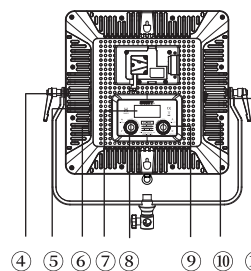

Fig.6 CL-60D
This product support battery and adaptor power supply, switch on the light (Fig.6 ①), set the require light parameter by brightness adjusting knob (Fig.6 ⑧), color temperature adjusting knob (Fig.6 ⑨), then use normally.
This product support two color temperature and brightness adjusting mode: General adjusting mode, Fast adjusting mode. Press brightness/color temperature adjusting knob (Fig.6 ⑧/⑨) to change the adjusting mode the user can set the brightness/color temperature quickly by combining the two adjustment modes according to the usage demand.
Long pressing the brightness adjusting button (Fig.6 ⑧) about 2s to enter in communication address setting interface, communication address range: 001-512.
LCD digital tube field (Fig.8 ④) flashing indicates that the current bit is selected, rotate the brightness adjustment knob (Fig.6 ⑧) to set the current bit, press the brightness adjustment knob (Fig.6 ⑧)
to determine the setting of the current bit and go to the next bit, when the setting of the last bit is completed, press the brightness adjustment knob (Fig.6 ⑧) or wait for about 5 s, to exit the setting of the communication address.
Through the DMX line of the lamp network, long press color temperature adjustment knob (Fig.6 ⑨) about 2 s, to complete the lamp communication control mode setting.